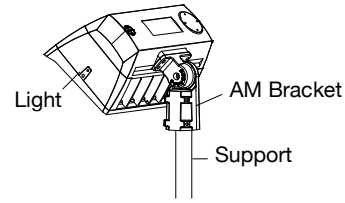

Figure 8
**STEP 2:** Loosen the fixing bolts and adjusting bolts, align the fixture to required angle. Tighten adjusting bolt and fixing bolts after the angle is confirmed. (FIGURE 8)
**NOTICE:** Adjustable angle is 0~±194° (FIGURE 8)